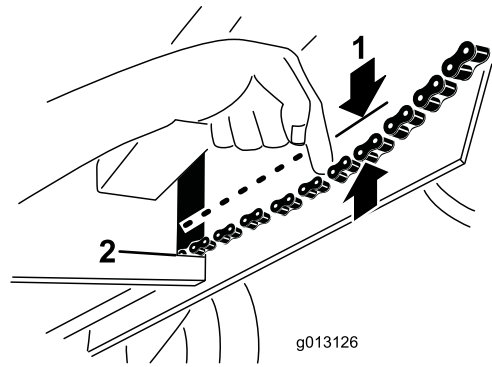

Figure 32
3. Pull down on the chain near the opening in the frame with 4.5 kg (10 lb) of force (Figure 32). If the chain deflects more than 6 mm (1/4 inch), tighten it as follows: